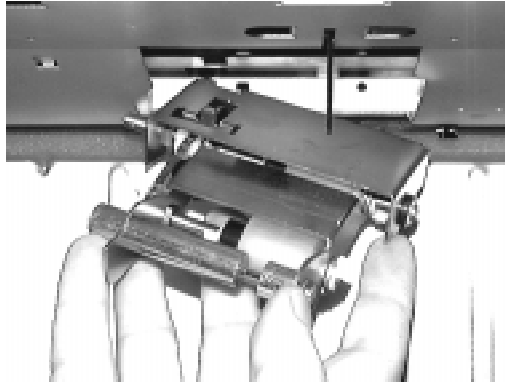

Figure 4-62 Remove Upper Roller Assembly
8. From the front of the HCI, gently pull out the upper roller assembly, as shown in Figure 4-62. Slide the assembly a little to the right before bringing it out of the HCI.